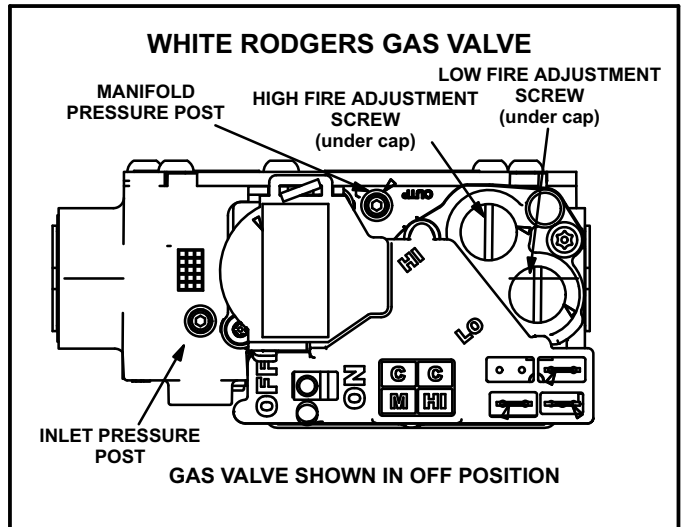

FIGURE 50
Gas Valve Operation (Figure 50)
- 6 - Move gas valve switch to **OFF**. See figure 50.
- 8 - Move gas valve switch to **ON**. See figure 50.
An inlet pressure post located on the gas valve provides access to the supply pressure. See figure 50. Back out the 3/32 hex screw one turn, connect a piece of 5/16 tubing and connect to a manometer to measure supply pressure. See table 21 for supply line pressure.
A manifold pressure post located on the gas valve provides access to the manifold pressure. See figure 50. Back out the 3/32 hex screw one turn, connect a piece of 5/16 tubing and connect to a manometer to measure manifold pressure.
- 4 - After allowing unit to stabilize for 5 minutes, record low fire manifold pressure and compare to value given in table 21. If necessary, make adjustment. Figure 50 shows location of low fire adjustment screw.
- 5 - Repeat on high fire and compare to value given in table 21. If necessary, make adjustment. Figure 50 shows location of high fire adjustment screw.